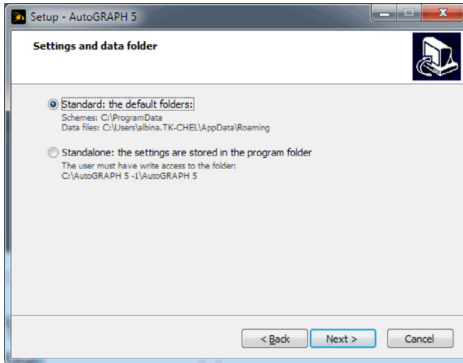

Fig. 3. Settings storage folders
- **Select the Destination Folder Manually** – allows selecting a custom folder for the program installation. To select a folder, click the “Browse” button. When the “Next” button is clicked, the program will offer selecting also a folder for storing settings and data (Fig. 3).